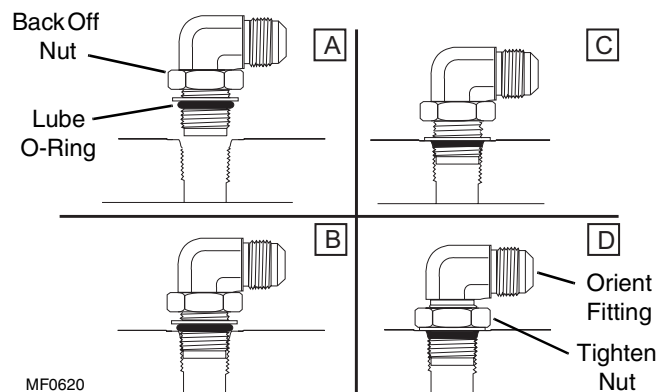

Figure 2-3 Adjustable Fitting to Port
2. Back off the nut, and lubricate the O-ring with a light coat of clean oil (Fig. 2-3, A).
3. Back off locknut as far as possible (Fig. 2-3, A).
- Screw fitting into port by hand until the backup washer contacts face of port and is pushed all the way towards the locknut (Fig. 2-3, B & C).
- To orient the fitting, unscrew the fitting the required amount, but not more than one full turn (Fig. 2-3, D).
- Hold the fitting in the desired position and tighten nut (Fig. 2-3, D) following the F.F.F.T. method (Refer to Group 2.8.4).